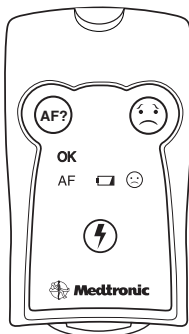

Figure 5. Patient Assistant with all symbols displayed for reference
4. Listen for a long beep or look to see if the telemetry status light is solid green. Lift the Patient Assistant to see what appears on the display area (Figure 5).
7. Listen for a long beep and look to see if the telemetry status light is solid red. Lift the Patient Assistant to see what appears on the display area (Figure 5).